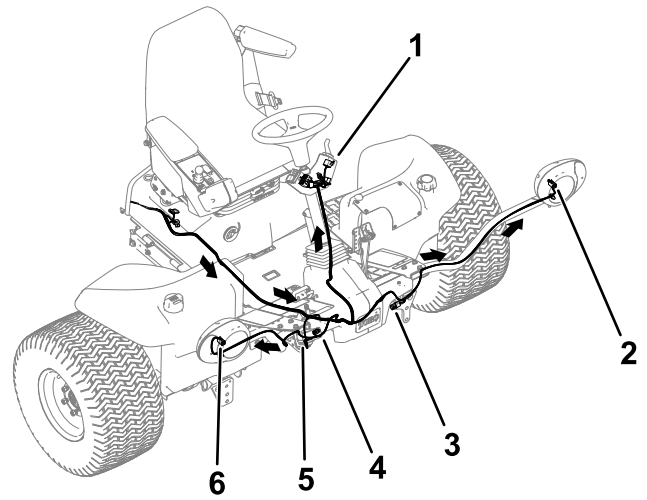

Figure 20
1. Route the front end of the wire harness under the operator platform to the front of the machine (Figure 20).
2. Thread each harness connector through the appropriate headlight bracket and connect it to the headlight (Figure 20).
3. Plug the wire harness lead with the 2 connectors into the horn (Figure 20).
5. Plug the light-kit wire harness connectors into the shroud headlights (Figure 20).
8. Route the wire harness to the column-bracket assembly on the steering column (Figure 20).